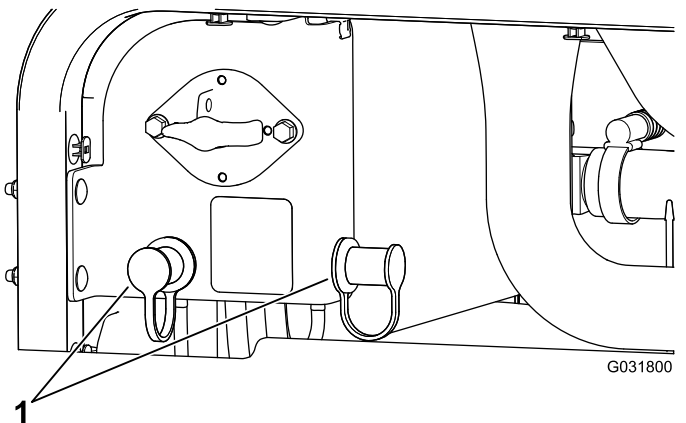

Figure 107
3. Remove the covers from the jump posts (Figure 107).